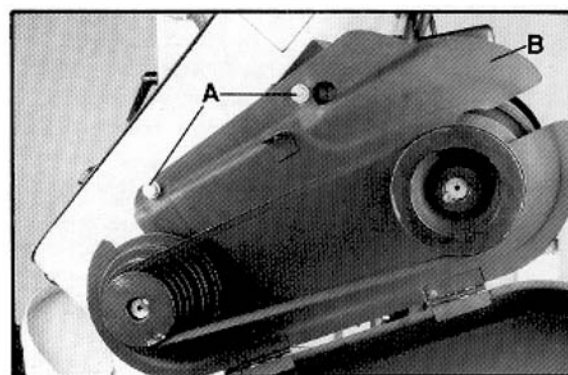

Figure 3
8. Remove two hex cap bolts and washers (A, Figure 3) from the right side of the saw arm.
9. Slide belt cover (B, Figure 3) around pulley shafts and attach to saw with two hex cap bolts and two washers.